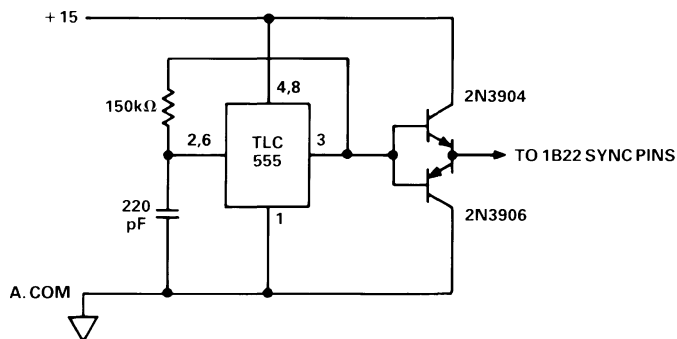

Figure 5. Multiple 1B22s' Synchronization
**Synchronizing Multiple 1B22s:** In applications where multiple 1B22s are used in close proximity, radiated individual oscillator frequencies may cause “beat frequency” related output errors. These errors can be eliminated by driving the SYNC pins of all the units with a 40 kHz clock circuit at 50% duty cycle (Figure 5). The SYNC input typically has an input impedance of  $150\text{ k}\Omega \parallel 180\text{ pF}$ .